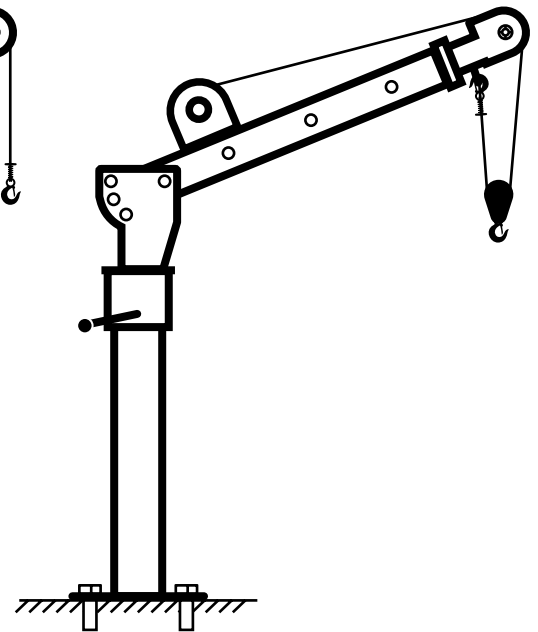

Fig. 6
6. Additionally you may use the provided pulley to hoist at the maximum rated capacity of the crane (Fig. 6).